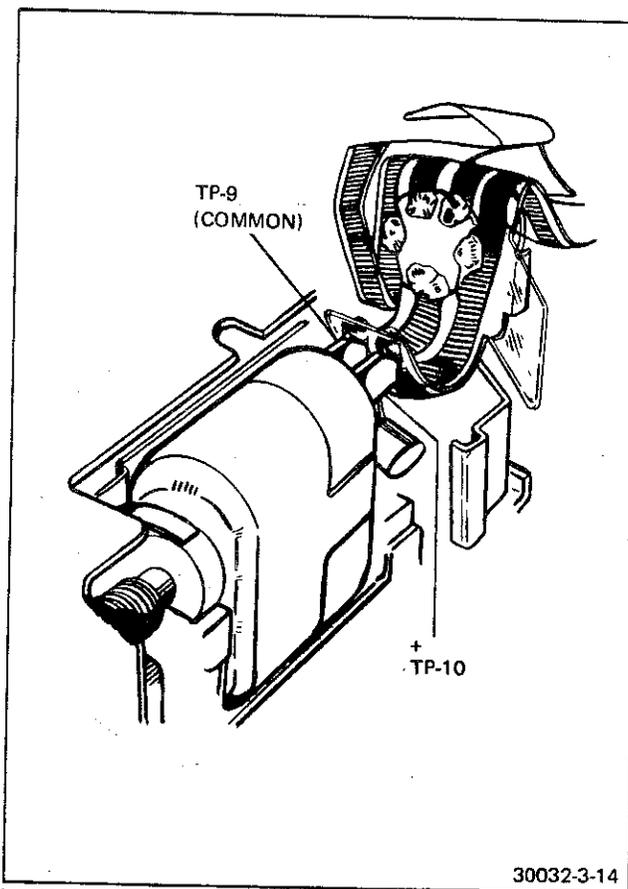

FIGURE 3-14 MOTOR CONNECTIONS
8. If there is no fault in the solenoid, check the motor. Two conditions could cause the motor to draw excessive current; a mechanical overload, or an electrical short circuit. Remove the power-supply simulator and remove the camera bottom cover (Section IV). Lift the flex circuit, Section IV, paragraph V, to expose the motor connections (Figure 3-14) TP-9 motor (-) and TP-10 motor (+). Use the Triplet Model 801 VOM and check the resistance across the two test points (motor contacts). It should be approximately 2 ohms. If the motor resistance is low, replace the motor and retest. If the resistance reading is correct, check the gear train.